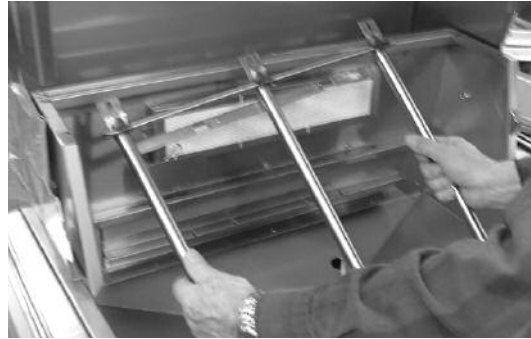

Fig 11
11. Fully remove the burners and front heat shield from the grill body. (See Fig. 11)
22. Place burners and front heat shield back into the grill body, making sure the burner tabs fall downward through cutouts. (See Fig. 11 & 10)